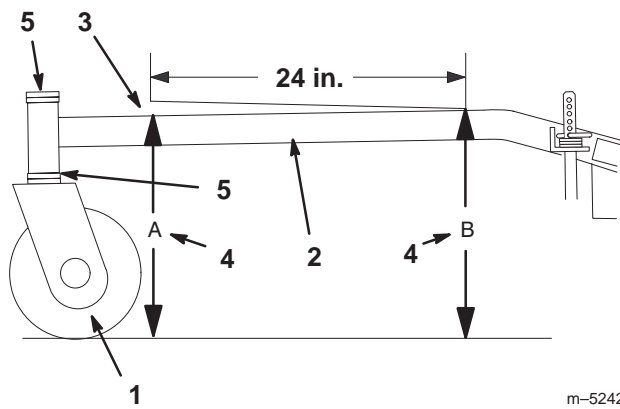

Figure 48
The carrier frame must have a pitch of a 1/4 in. over the length of 24 inches on the carrier frame (Fig. 48).
1. Measure out 24 inches on the carrier frame (Fig. 48).
2. Measure carrier frame height at location "A" (Fig. 48).
3. Measure carrier frame height at location "B" (Fig. 48).
4. The height at location "A" must be a 1/4–3/8 in. lower than location "B" (Fig. 48).
5. If the carrier frame is not correct, move caster spacers to make it a 1/4–3/8 in. pitch (Fig. 48). Move spacers from top or bottom to make the correct pitch.